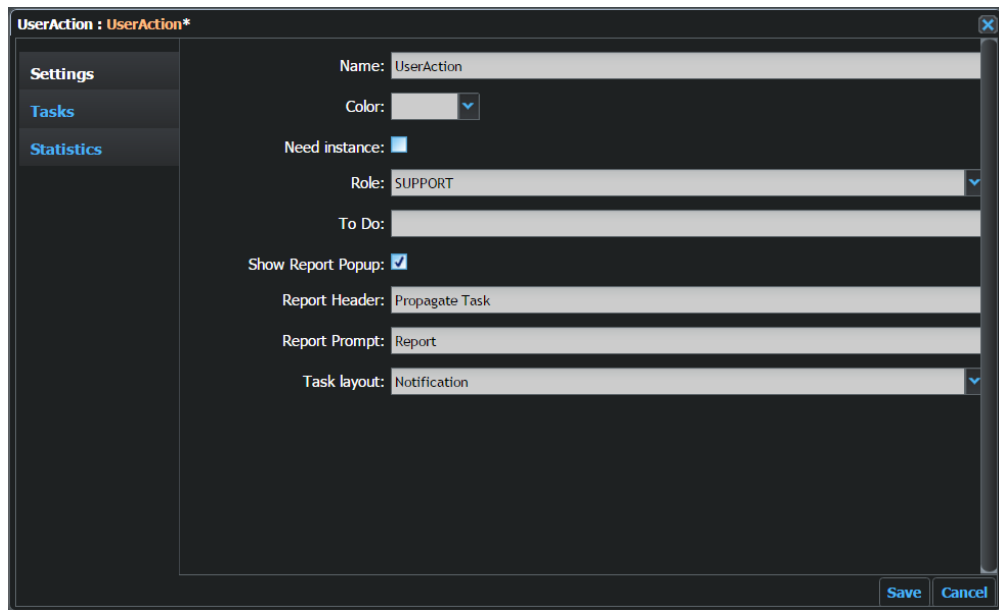

Fig. 3-97: UserAction Element Settings
- 4 Double-click the UserAction element to modify its settings, see Figure 3-97.